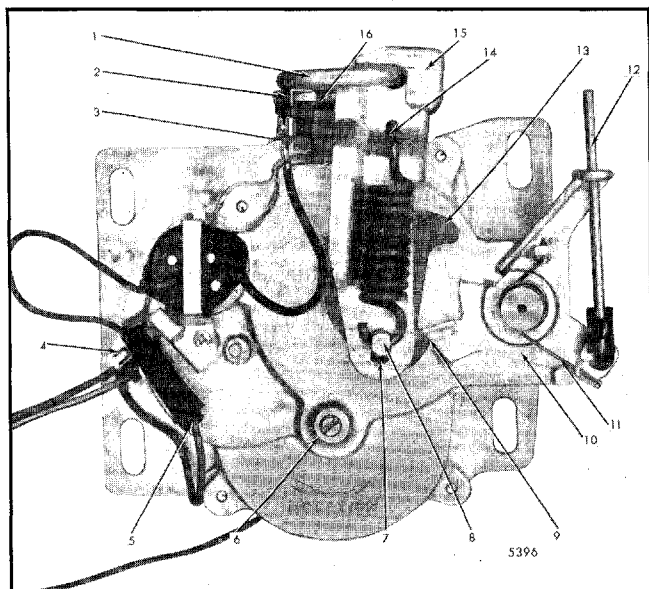

Fig. 7-42-Electric Closing Unit Front View
2. Insert flat-bladed screwdriver into slotted secondary gear output shaft to manually cycle unit (counterclockwise - direction of arrow) to full down (closed) position. Set output cam against lock release lever (antireversing stop) as shown in Figure 7-42.
3. Disconnect motor ground terminal from plunger grounding plate tab (Fig. 7-42).